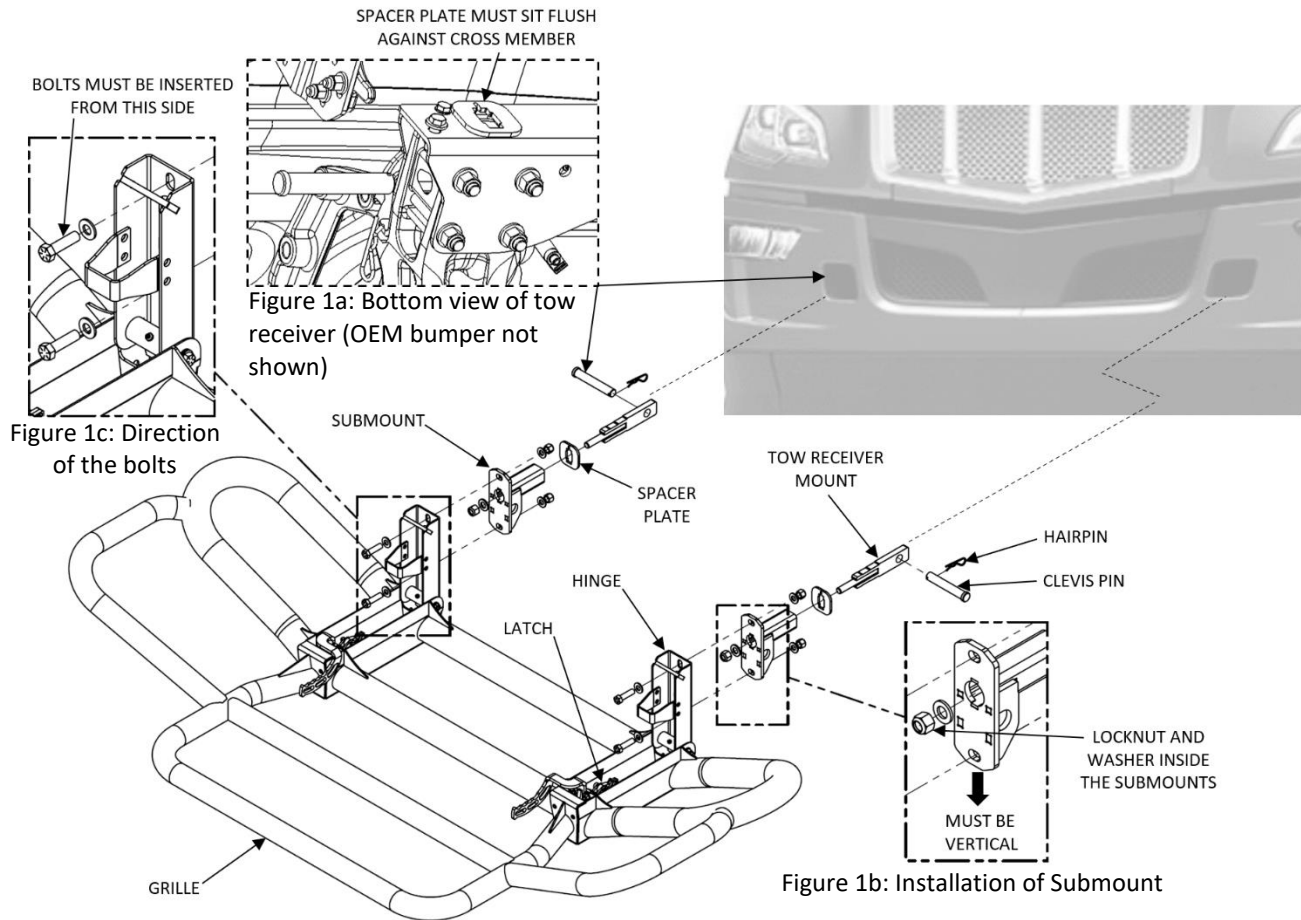

Figure 1: Guard installation (Your Guard may not be exactly as shown)
4. Open driver side Hinge and lift to driver side Submount. Hand tighten upper hardware shown in Figure 1 (**do not fully tighten**). Repeat for passenger side. **Ensure bolts are inserted from front (Hinge side) as shown in Figure 1c.**